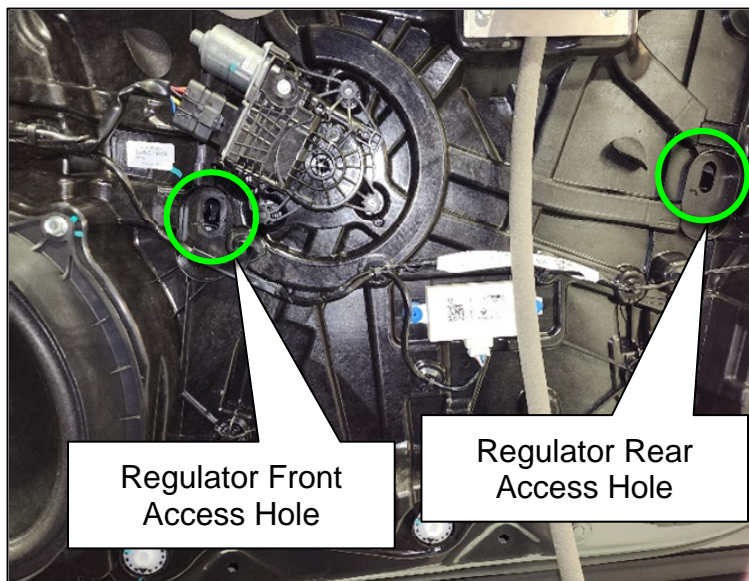
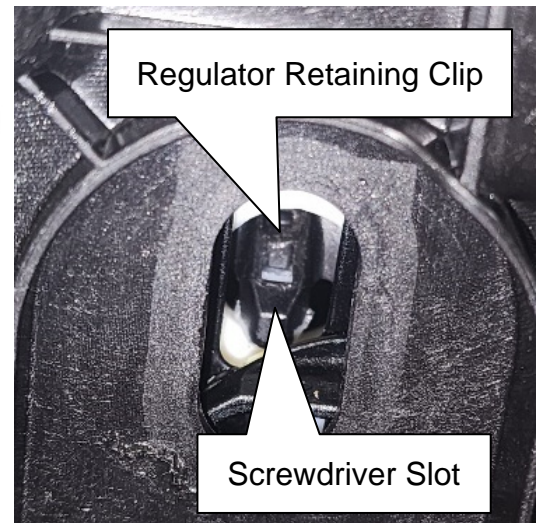

Figure 7
Figure 8
7. Press the Ignition Button one (1) time to turn the ignition OFF.
- Starting with the Regulator Rear Access Hole, insert a small flathead screwdriver into the Regulator Retaining Clip and push the Regulator Retaining Clip inward to release the Door Glass from the clip as shown in Figure 7 and Figure 8.
- Next, go to the Regulator Front Access Hole and insert a small flathead screwdriver into the Regulator Retaining Clip and push the Regulator Retaining Clip inward to release the Door Glass from the clip as shown in Figure 7 and Figure 8.